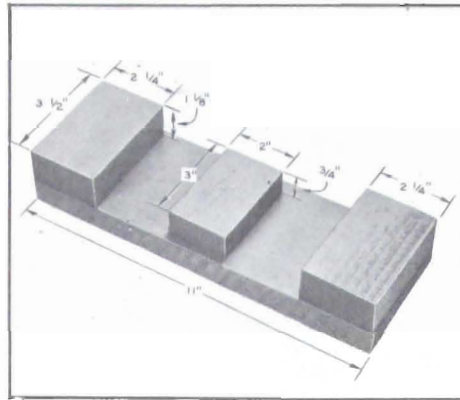

Figure 5-57—Two Position Stator Assembling Fixture
2. Place the rear carrier and piston on center block of fixture to hold the piston in position. See suggested fixture shown in Figure 5-57.